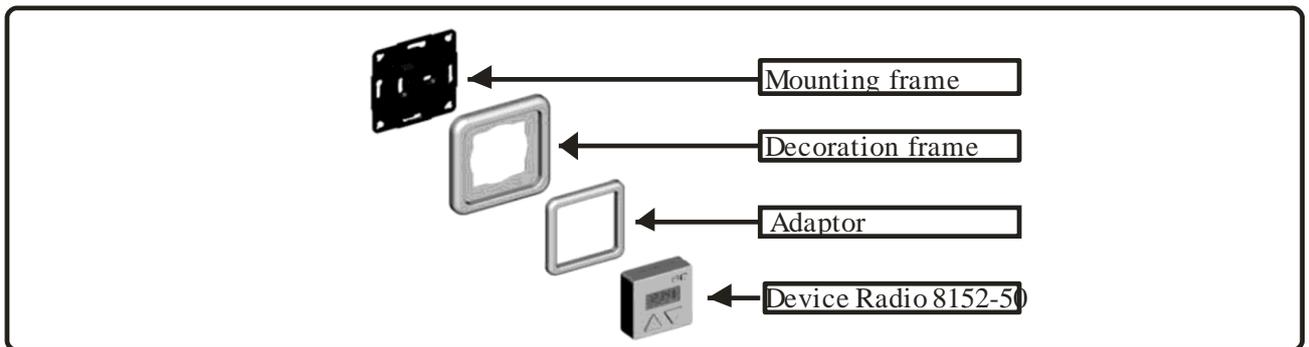

Fig.3 Fixing the radio timer
- Holding the frame and the adapter, snap in the device (see fig.3).